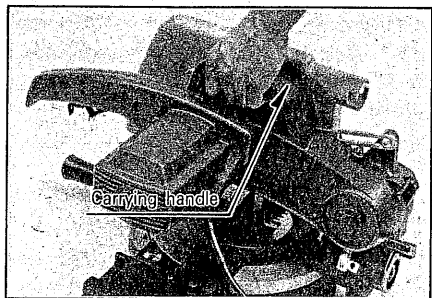

Fig. 24
- b. To avoid back injury, get help when you need to lift the saw more than 10 inches. Use the carrying handle. (Fig. 24).